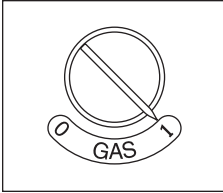

Figure 4
2. In a well ventilated area away from ignition sources, turn the On/Off Valve to the '1' (On) position (Figure 4). A hissing sound indicates butane flow.